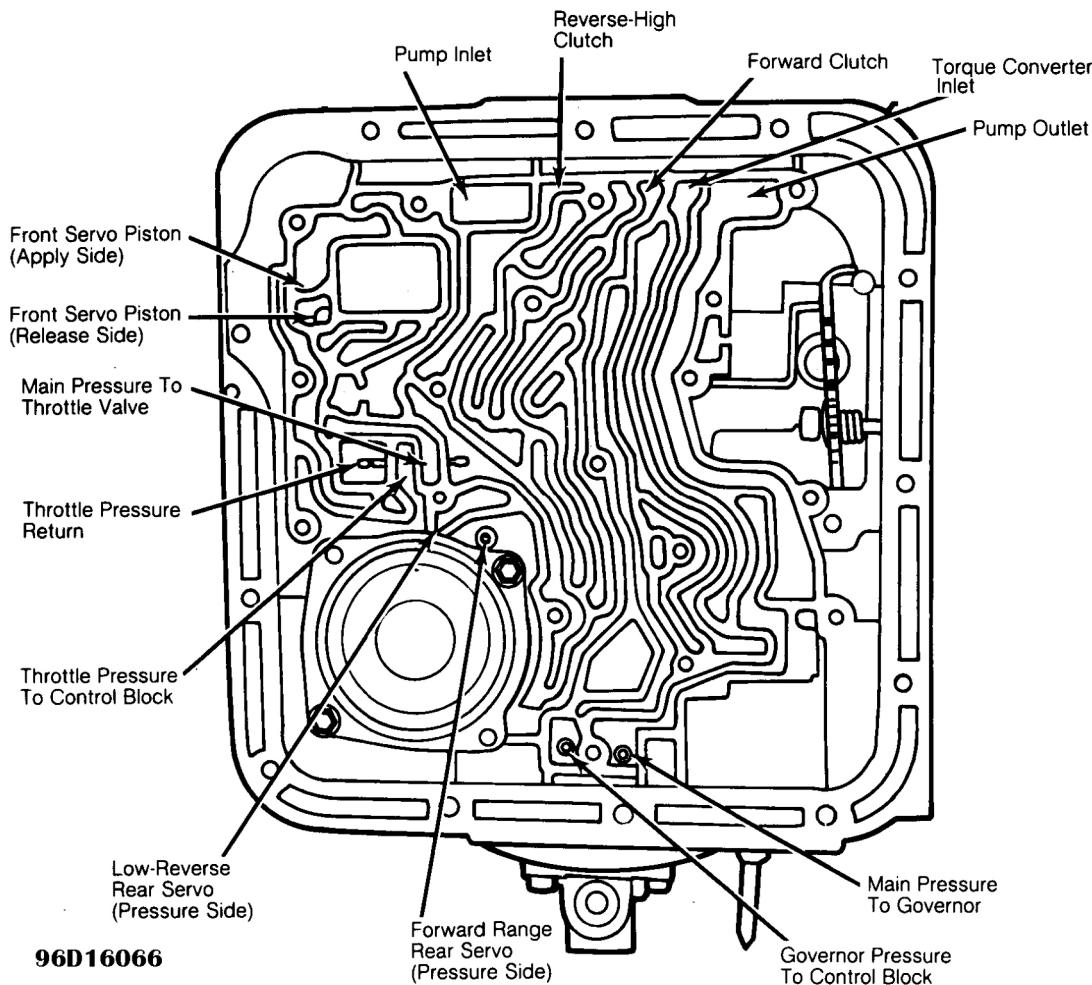

Fig. 10: Bottom View of Transmission Case
3. Loosen oil pan bolts and allow transmission fluid to drain. Remove oil pan and control valve body. Apply air at points indicated. See **Fig. 10** . Minimum of 40 psi or maximum of 90 psi is needed to pressure check transmission.